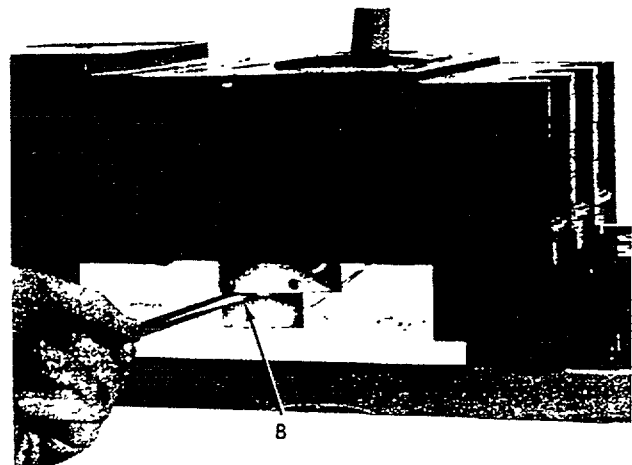

Figure 6
3. Insert screwdriver blade in adjustment opening (B) Figure 6, and twist slowly until switch is just actuated. (Circuit OPEN with black wired Shunt Trip Device; Circuit CLOSED with blue wired Undervoltage Release Device.)